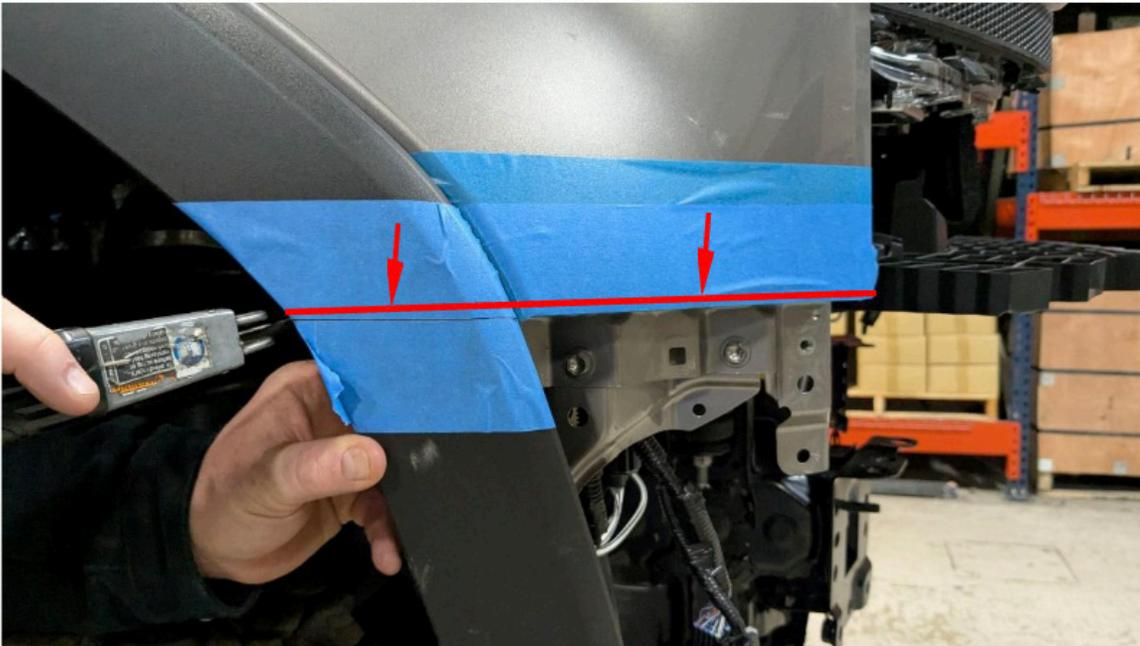

Figure 31.
23. Using a marker and masking tape, cover the fender flare where it meets the front edge of the fender and mark a line parallel with the front edge of the fender. Using a small reciprocating saw, trim the flare along the previously marked line. Figure 31.